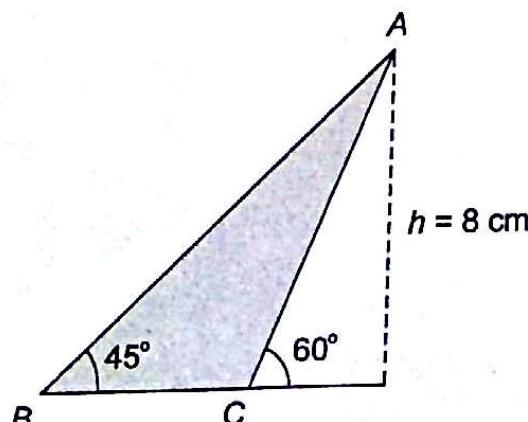

Fig. 5.15
5.2 What is moment of inertia of triangle ABC as shown in Fig. 5.15 about base BC?